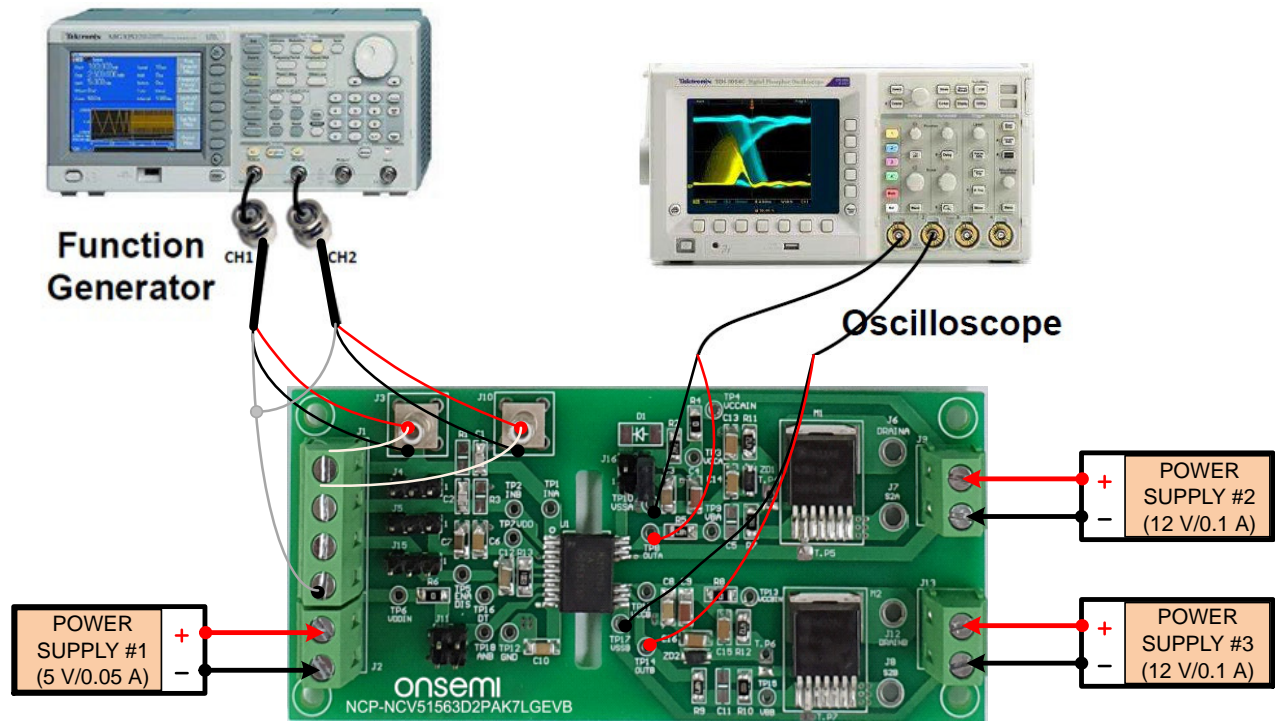

Figure 2. Bench Setup Diagram and Configuration
Follow the connection procedure below and use Figure 2 as a reference.
- Function generator channel-A channel applied on INA (J4 or J1 pin-1) ↔ TP1 as seen in Figure 2.
- Function generator channel-B channel applied on INB (J5 or J1 pin-2) ↔ TP2 as seen in Figure 2.